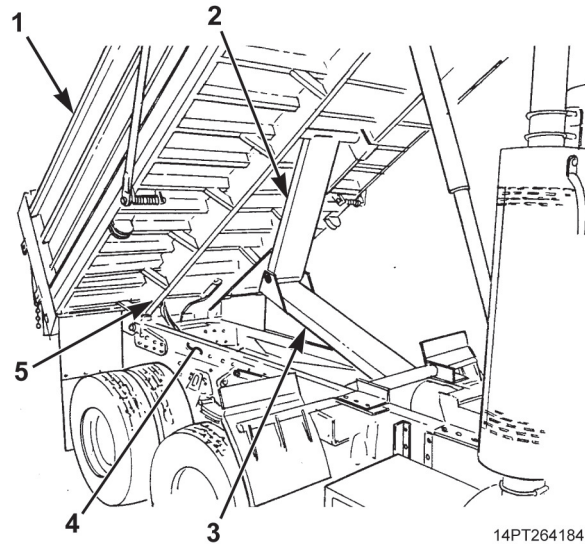

Figure 7. Stabilizer Down.
8. Working from underside of vehicle, release lower half (Figure 7, Item 3) and upper half (Figure 7, Item 2) of stabilizer from bottom of dump body (Figure 7, Item 1).
9. Raise front of dump body (Figure 7, Item 1) and position wooden blocks between dump body frame rails (Figure 7, Item 5) and vehicle chassis (Figure 7, Item 4).